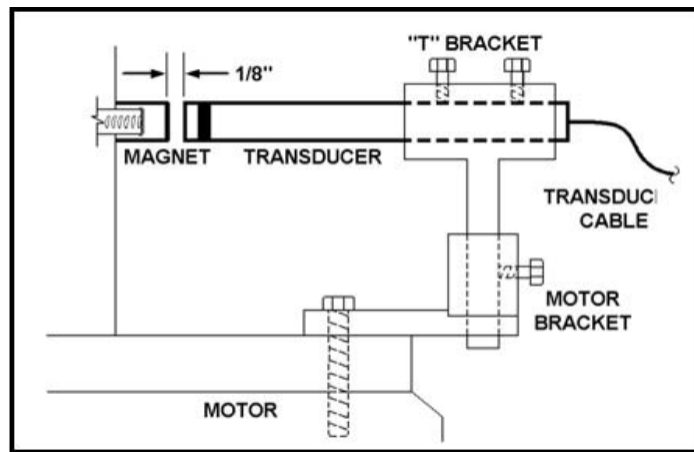

Figure 46 Motor Transducer Assembly
- 5 Assemble and adjust the T-bracket linkage so that the magnet passes approximately 1/8 inch from the transducer. See Figure 46.